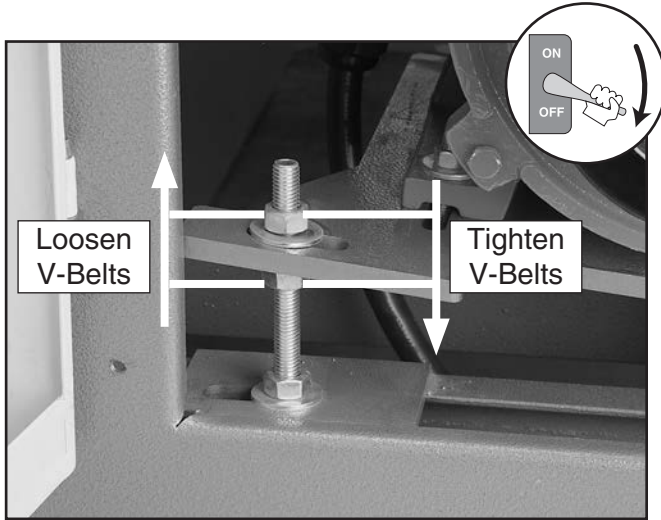

Figure 44. V-belt tension controls.
3. Using a 19mm wrench, turn the motor mount nuts in the direction shown in **Figure 44** to loosen or tighten the V-belts.